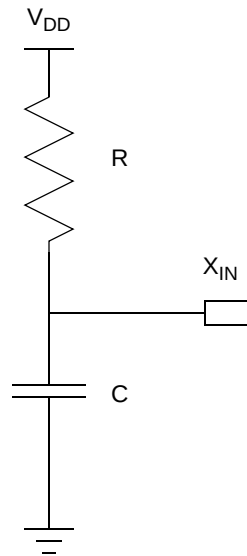

**Figure 41. Connecting the On-Chip Oscillator to an External RC Network**
The External RC Oscillator mode is applicable to timing-insensitive applications. Figure 41 displays a recommended configuration for connection with an external resistor-capacitor (RC) network.